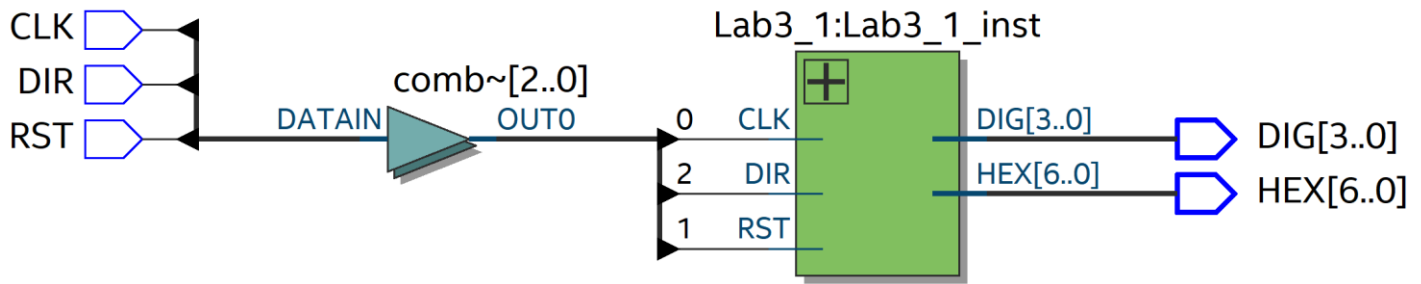

Figure 49
5. Be sure that you got something like Figure 49.